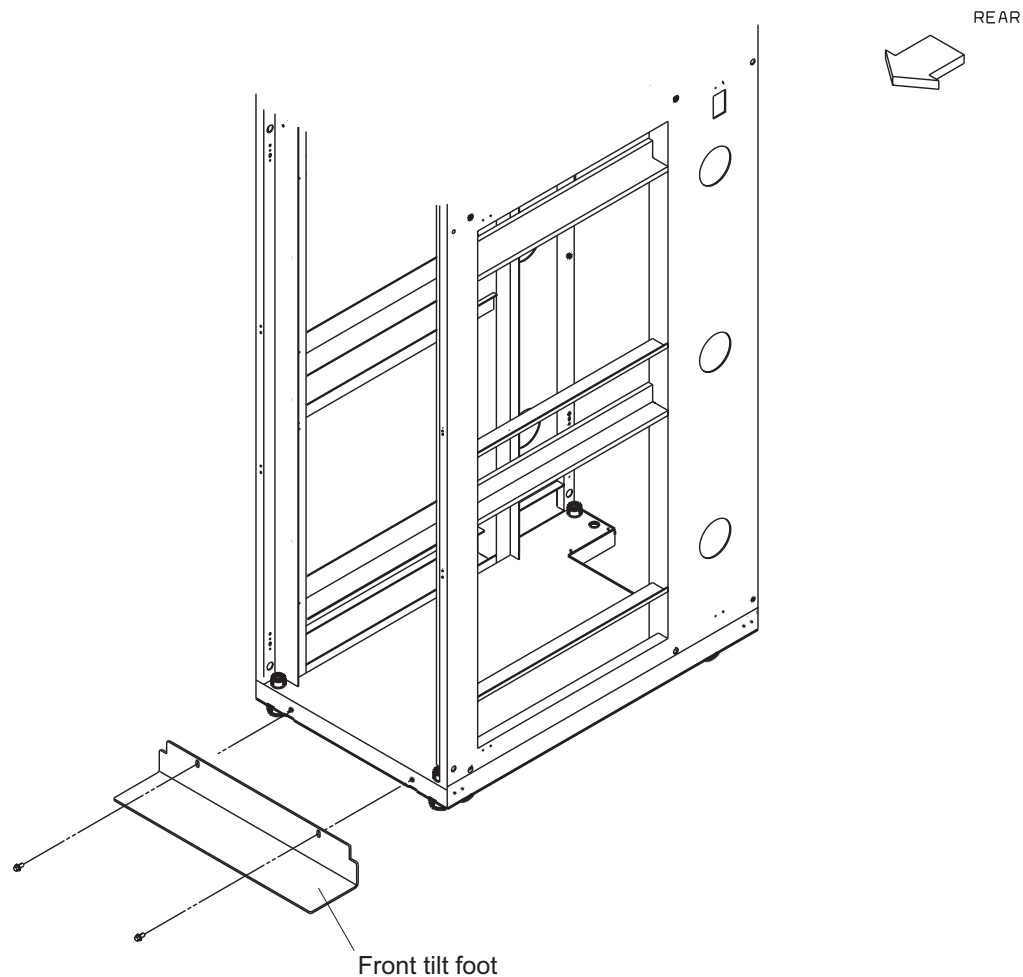

Figure 3. Cluster 1350 stability kit
2. Install the frame-stabilizer foot on each cabinet. Figure 3 on page 7 shows how to install a frame-stabilizer foot.
A stability kit (IBM part number 41V0584), containing one stability kit, is included with the 1410 rack. Install the stability kit when the rack is at the final installation location. Figure 3 shows the attachment of the stability kit.